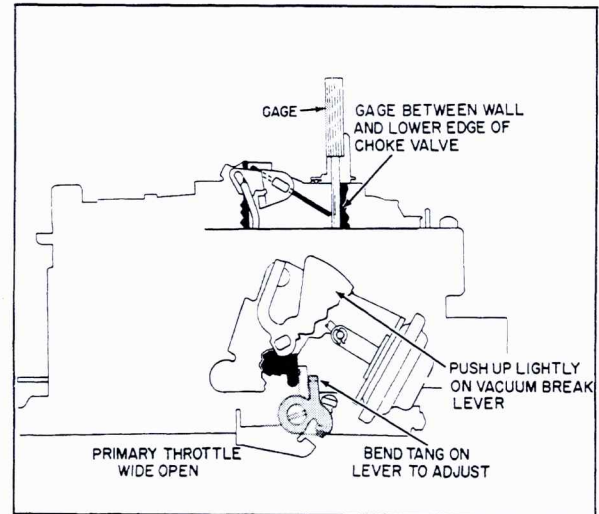

Fig. 6-82 Unloader Adjustment
85. Unloader Adjustment (Fig. 6-82)
3. Bend tang on fast idle adjusting lever, Fig. 6-82 to adjust.